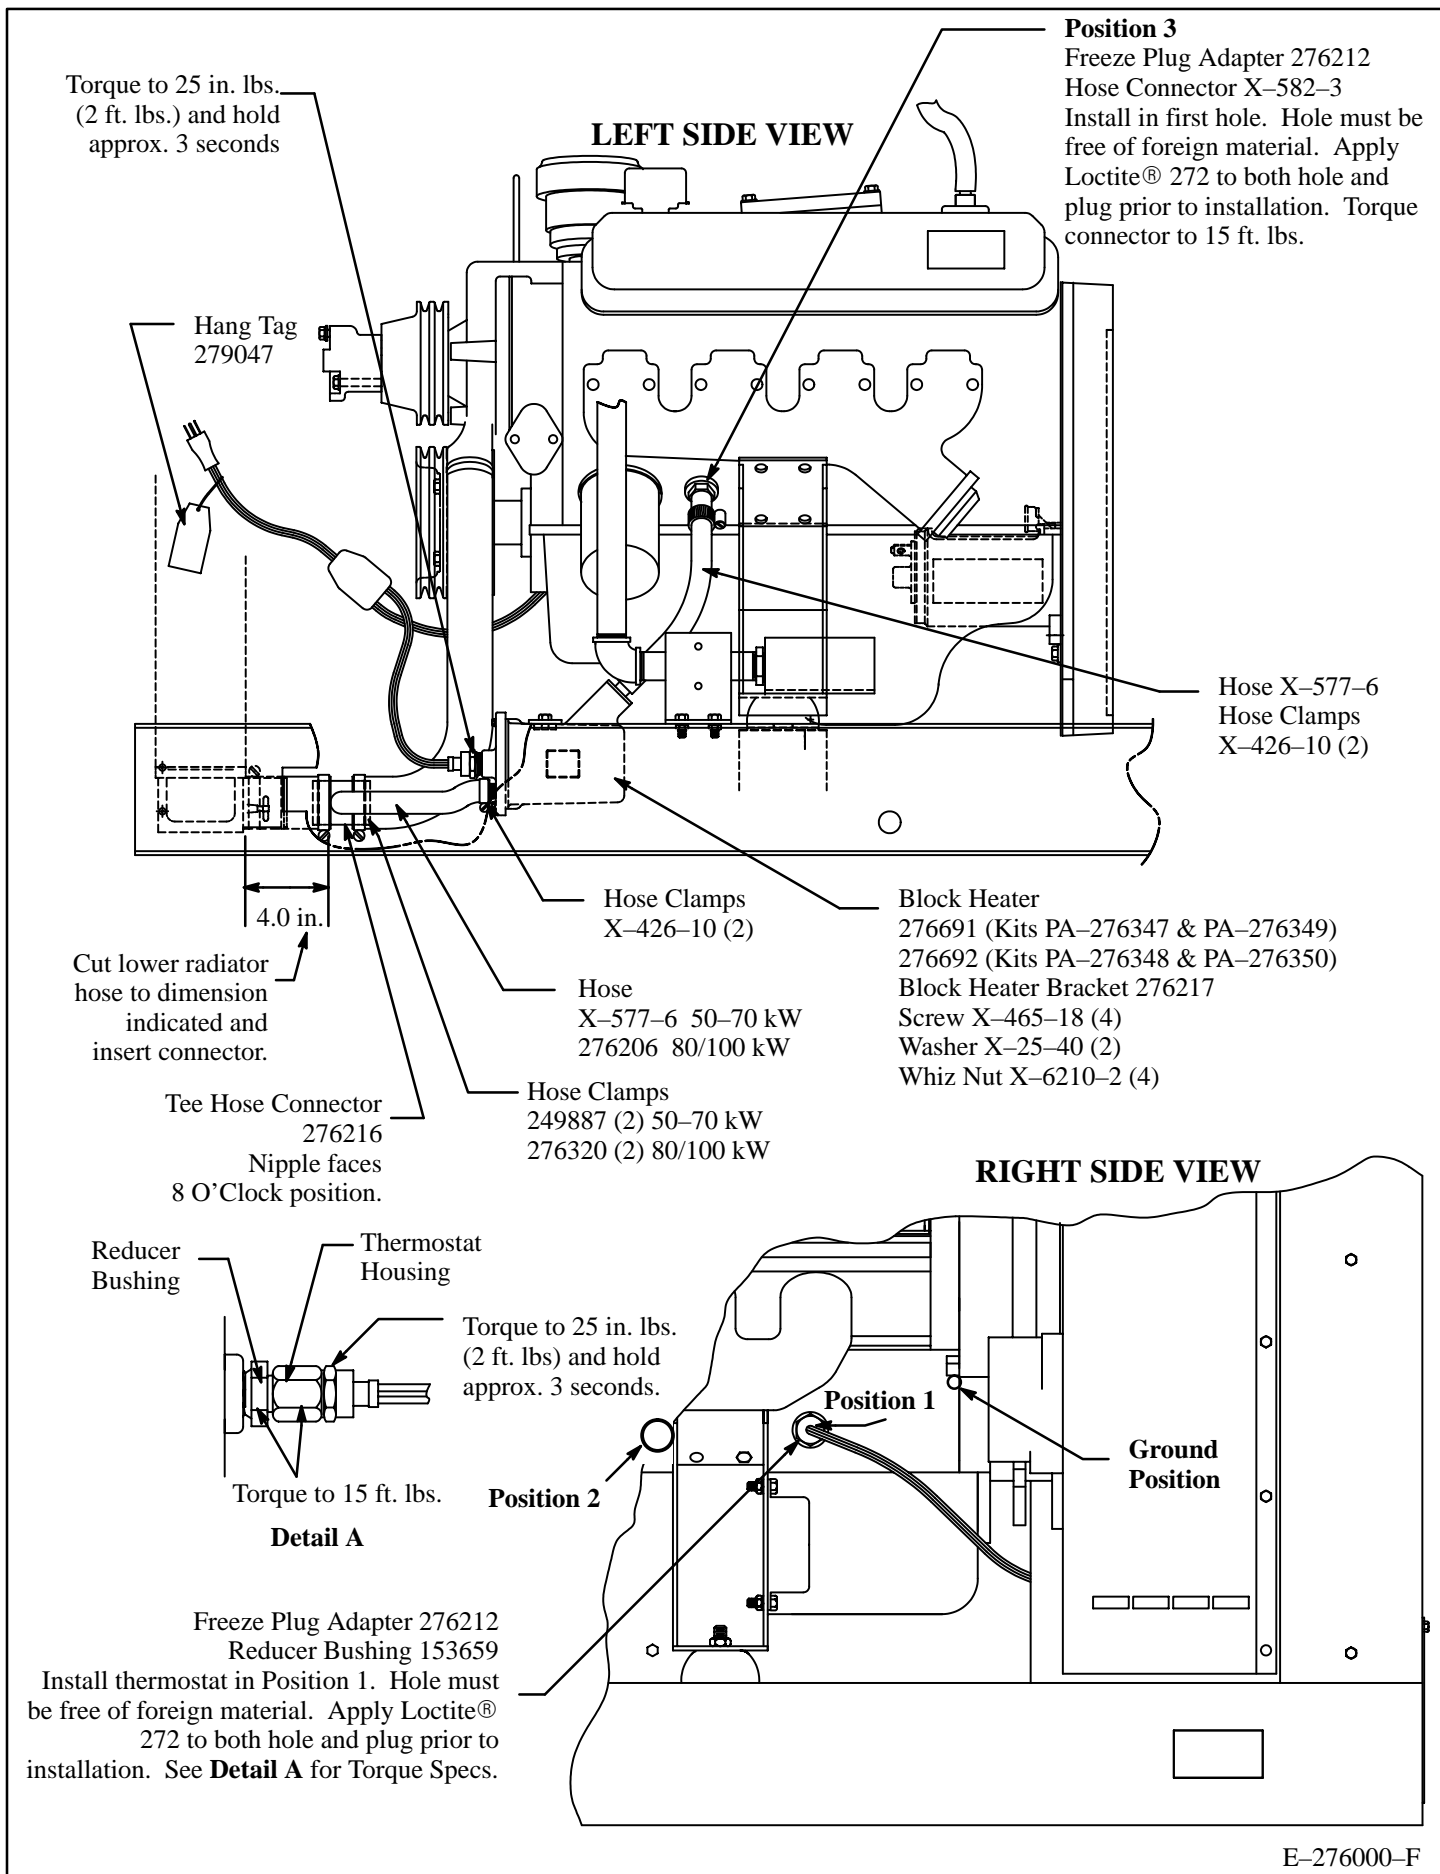

Figure 2. Block Heater Installation (Tank Type)
If the unit is equipped with a Low Water Temperature Switch located at position 1, (Figure 2), Skip Step 4 and proceed to Step 5. If the unit is not equipped with a Low Water Temperature Switch located at position 1, follow Step 4 and proceed to Step 6.
4. With components clean and dry, apply Loctite® threadlocker 272 (red) or equivalent to freeze plug adapter 276212 and hole. Install freeze plug adapter using hardwood dowel and hammer at position 1 (see Figure 2, Right Side View). Drive freeze plug adapter into engine block so that it is flush with outside surface of block. Do NOT drive freeze plug adapter beyond that point or it may be forced into the water jacket.
5. If installing block heater service kit on a unit with the **Low Water Temperature (L.W.T.) Switch** feature located at position 1 (Figure 2): Remove the L.W.T. switch and reducer bushing but leave the freeze plug adapter in place. Install reducer bushing 153659 and the new thermostat at position 1 (see Figure 2, Right Side View for torque specifications.)
With components clean and dry, apply Loctite® threadlocker 272 (red) or equivalent to freeze plug adapter 276212 (supplied in kit) and hole at position 2 (Figure 2.) Install freeze plug adapter using hardwood dowel and hammer at position 2 (Figure 2.) Drive freeze plug adapter into engine block so that it is flush with outside surface of block. Do NOT drive freeze plug adapter beyond that point or it may be forced into the water jacket. Apply pipe sealant to the reducer bushing (which was removed from position 1), and install into freeze plug adapter at position 2 (see Figure 2) and torque to 15 ft. lbs. Relocate L.W.T. switch at position 2 and torque to 15 ft. lbs. Pull lead 35A back through harness and connect to L.W.T. switch. Remove lead N from harness disconnecting at ground position. Add new lead SWON-1622-2218 to L.W.T. switch and connect the other end to the ground position (route lead away from sharp edges.)
6. With components clean and dry, apply Loctite® threadlocker 272 (red) or equivalent to freeze plug adapter 276212 and hole at position 3 (see Figure 2, Left Side View). Install freeze plug adapter using hardwood dowel and hammer. Drive freeze plug adapter into engine block so that it is flush with outside surface of block. Do NOT drive freeze plug adapter beyond that point or it may be forced into the water jacket.
Apply pipe sealant to hose connector X-582-3 and install into freeze plug adapter on left side of engine. See Figure 2. Torque hose connector to 15 ft. lbs. (20 Nm).
** Item used only if installing kit on a unit with a Low Water Temperature Switch Located at Position 1, Figure 2.